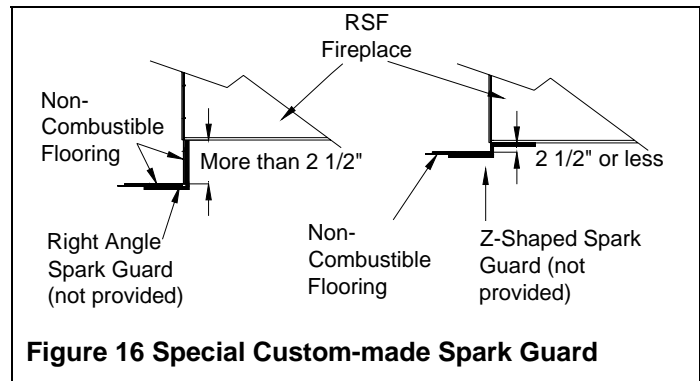

Figure 16 Special Custom-made Spark Guard
If you are preparing a raised installation, you will need a custom made spark guard, either a "Z" shaped spark guard or a right angle spark guard (see Figure 16). The Z-shaped spark guard must be used if the height between the bottom of the fireplace and the top of the non-combustible flooring of the hearth extension is less than or equal to 2 ½". The height of the Z-shaped spark guard must equal the distance between the floor and the base of the unit and go under the hearth extension and the fireplace by at least 2½". If the unit is installed higher than 2 ½" from the top of the flooring, a right angle spark guard is necessary. The sides of the right angle spark guard should be at least 2½" x 2½" and must be covered with non-combustible material. Any custom made spark guard must have the minimum width specified in Table 1 (I), and be installed centered on the door opening.